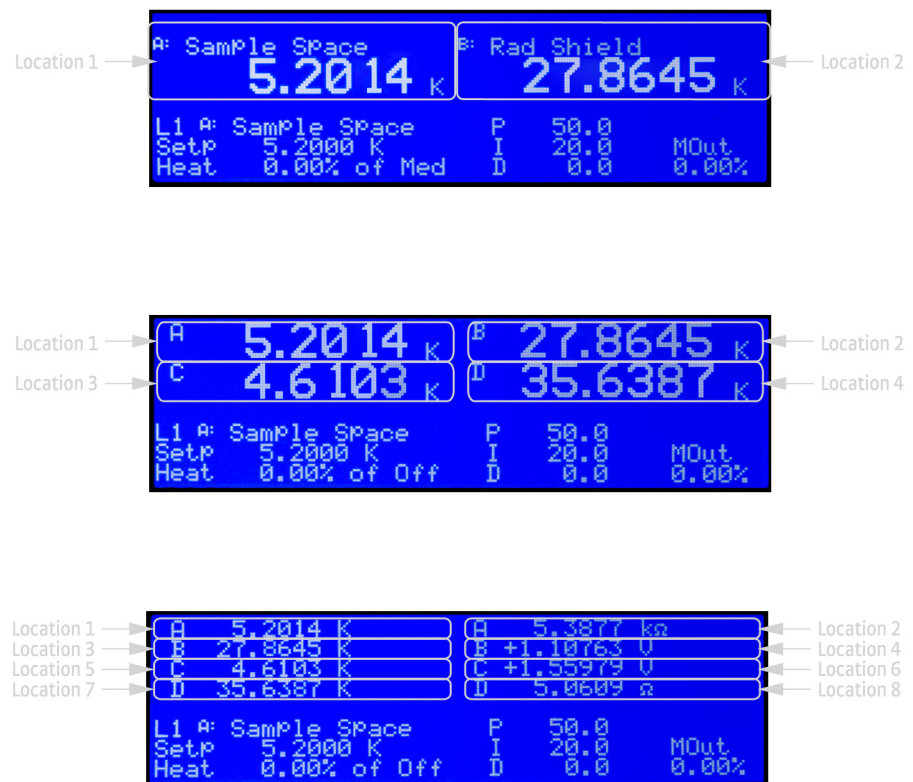

FIGURE 4-5 Top to bottom: Model 336 screen images showing 2, 4 and 8 display locations
- **Locations:** depending on the Number of Displays parameter, there can be anywhere from two to eight display locations for displaying sensor readings. The placement of a given display location on the front panel LCD depends on the Number of Displays setting (FIGURE 4-5).